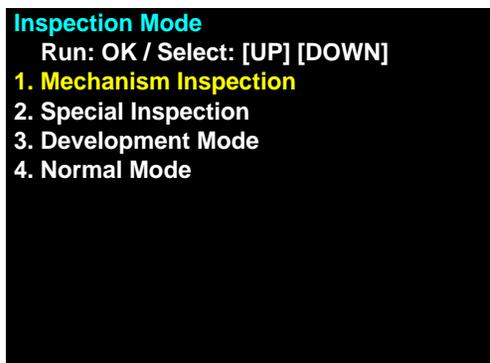

Figure 8-31. Start-up Screen in the Special Inspection Mode
- If one of the modes in the menu (Fig. 8-31) is selected and entered by pressing the OK button, you cannot go back to the screen (Fig. 8-31) again. To return to the screen (Fig. 8-31), turn the power off once, and start the printer in the special inspection mode once again.
- 3. Within 30 seconds after turning the power off and the LCD screen goes off, press and keep pressing the sections shown below (1), then press the Power button for more than one second (2) to start Epson Stylus Photo PX660/PX660 Premium/Artisan 635 in the special inspection mode.